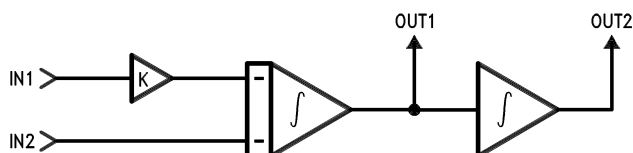

Figure 52. MODE 7
8.4.1.12 Summing Integrator (See Figure 52)